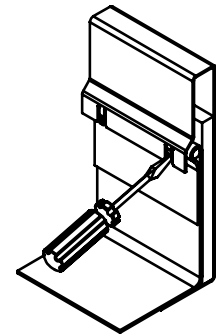

fig. 3
3. Install roofing material up to and surrounding the roof curb, and under the counterflashing at the top of the curb. Use the EZ tab feature, fig. 3, as shown to provide additional mechanical support to hold and secure roofing membrane. Lap and seal all joints in roofing material to provide a weather-tight seal.